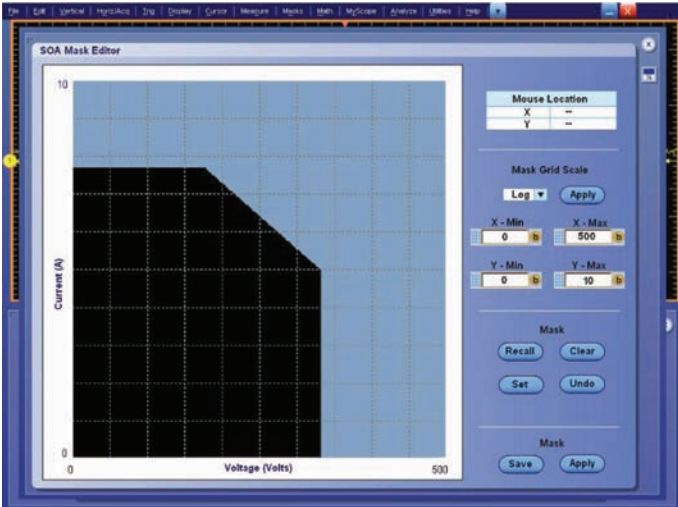

Figure 12. SOA Mask Editor window for DPOPOWER. The X and Y Max. and Min. values are customizable.
- As shown in Figure 12, the SOA Mask editor sets up a mask based on the maximum and minimum voltage and current limits for the transistor, as defined in its datasheet. This enables the evaluation and comparison of the measured SOA of the transistor with the maximum limits defined by the manufacturer. If the data points fall inside the mask zone, they are green to indicate ‘pass’ and if they fall outside the mask zone, they are red to indicate ‘fail’.